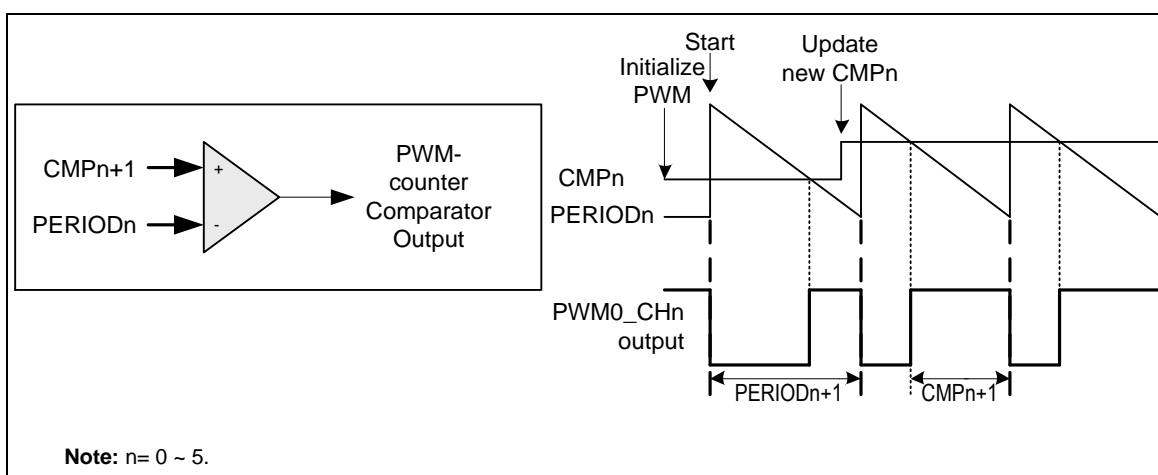

Figure 6.7-10 Legend of Internal Comparator Output of PWM Counter
6.7-11. The pulse width modulation follows the formula below and the legend of PWM counter Comparator is shown in Figure 6.7-10. Note that the corresponding GPIO pins must be configured as PWM function (enable PWM_POEN) for the corresponding PWM channel.